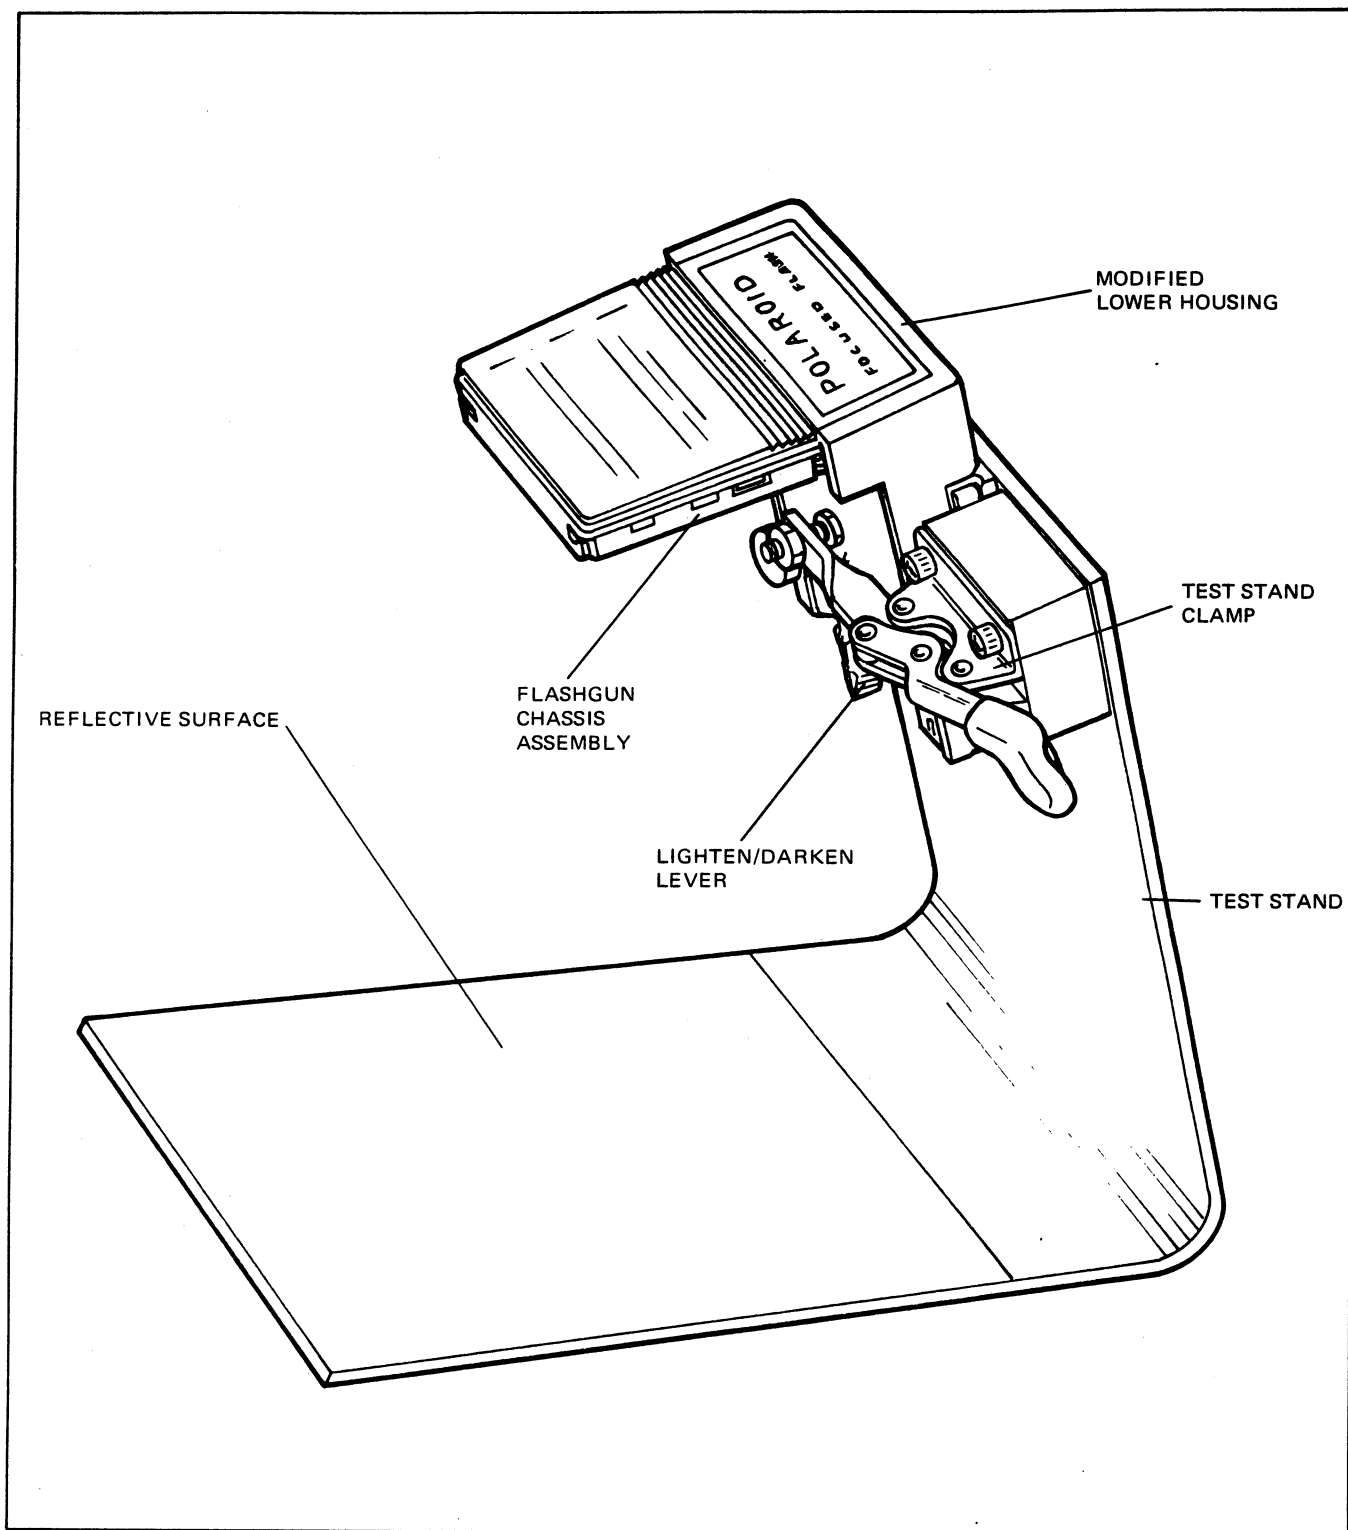

FIGURE 4 TEST STAND WITH MODIFIED HOUSING IN PLACE
8. Clamp the assembly into position with the test stand clamp (see Figure 4).